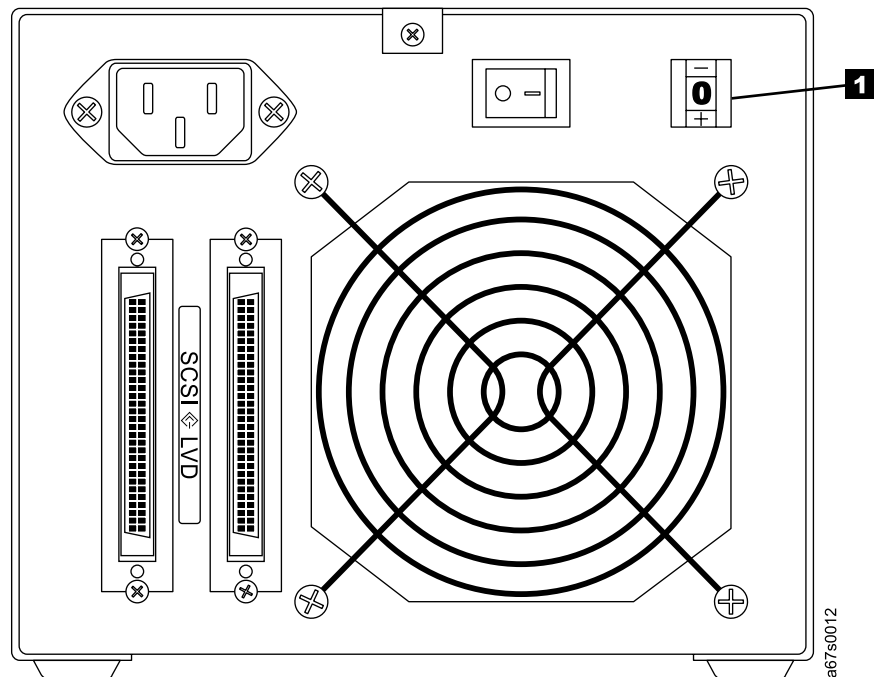

Figure 22. Checking the setting on the SCSI address switch. The switch is located at the rear of the 3580 Ultrium 2 Tape Drive.
1. Check the SCSI address switch ( **1** in Figure 22) to ensure that it is set to the SCSI ID that you chose in "Step 5. Setting the SCSI ID" on page 8.